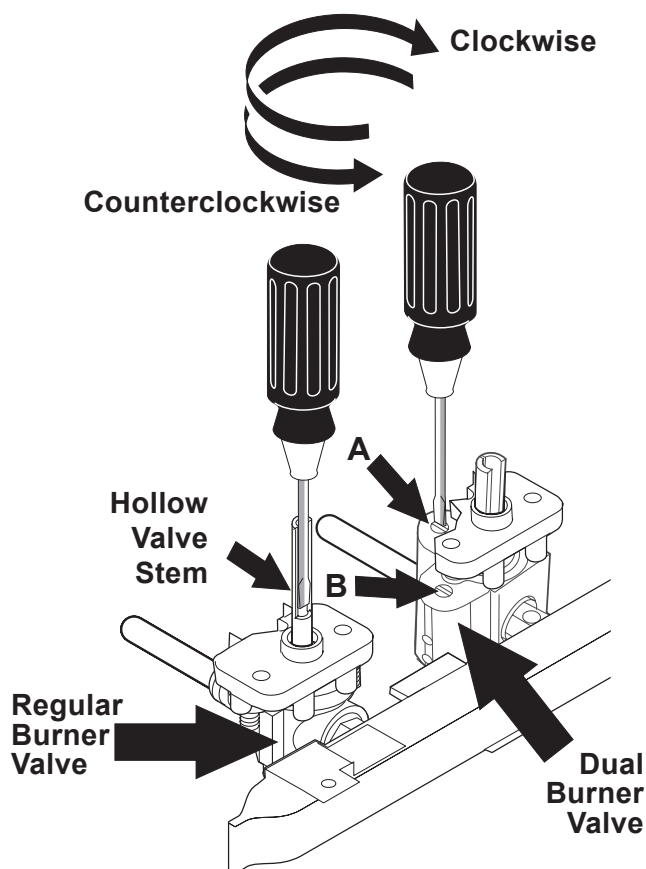

Figure 10
4. Adjust the "LOW" setting for regular surface burner valves (Figure 10)
5. Adjust the "LOW" setting of the dual burner surface valve (Figure 10) (some models):